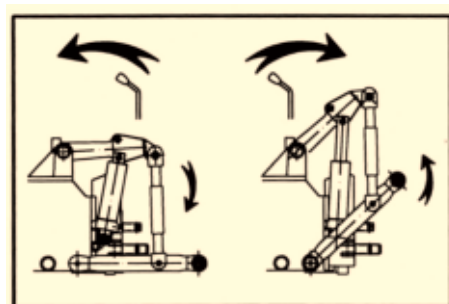

Fig. 30
- Forward/down lever: the lifter descends (Fig. 30). The lifter can stay fix in this position to maintain the implement "floating".
- Backwards/up lever: The lifter goes up (Fig. 30). If it is released, the lever returns to the central position, closing the circuit.